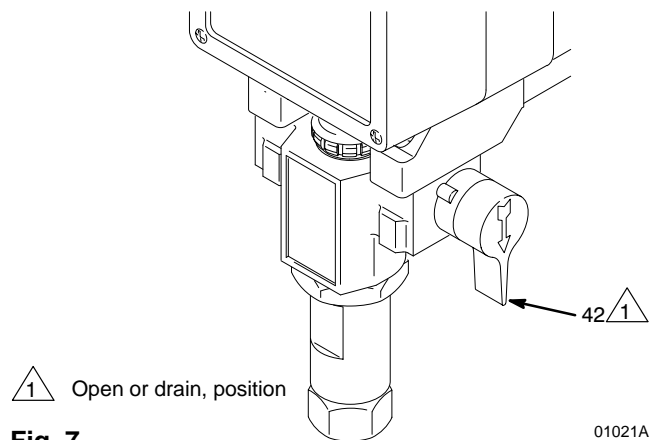

Fig. 7
1. **Open the pressure drain valve (42).** See Fig. 7.
3. **Put the suction hose (32) into the paint.** If you are pumping from a pail, push the drain hose (33) down below the top of the pail to avoid splashing paint when the drain valve is opened.